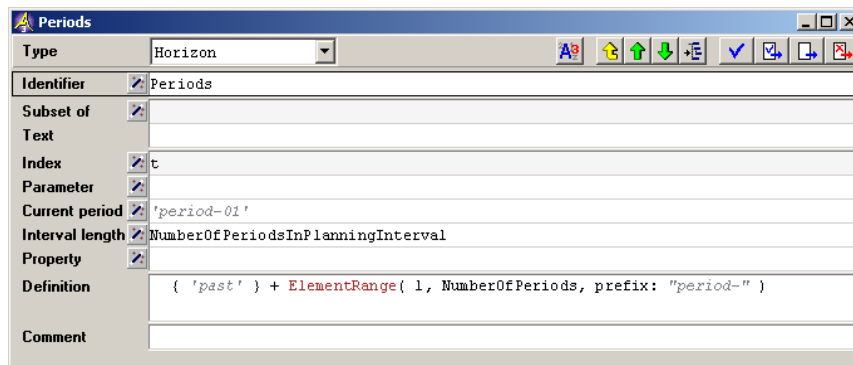

Figure 6.11: The completed attributes of the horizon 'Periods'
Consider Figure 6.11, and complete the **Definition** attribute. Again, you may want to use the name completion facility to select NumberOfPeriods as the second argument in the function `ElementRange`.
- ▶ type the definition as in Figure 6.11,